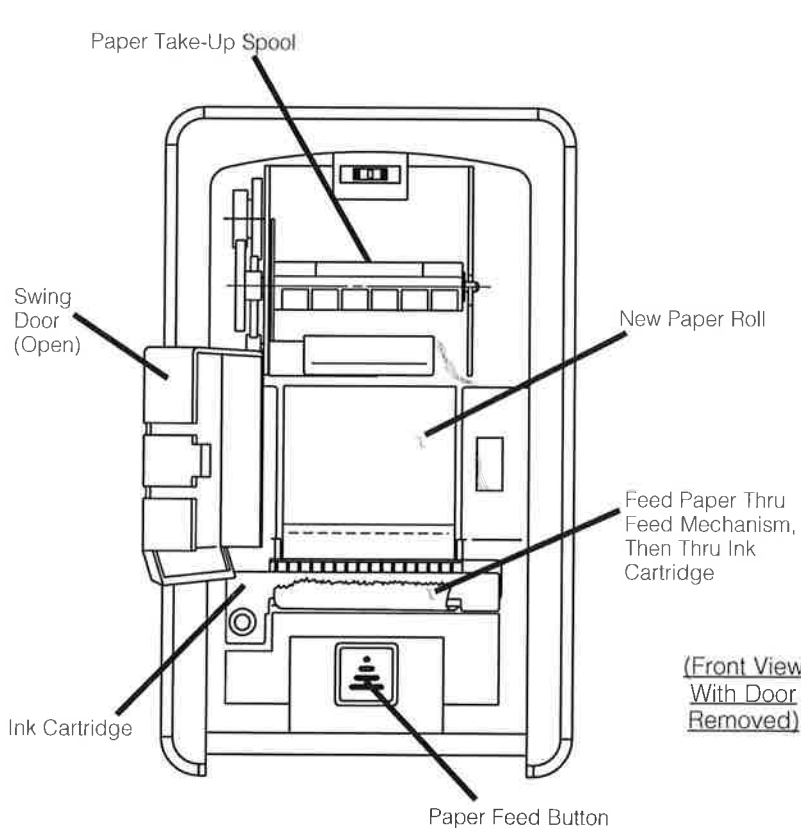

Figure 8-1.
2. Refer to figure 8-1 and remove any existing paper, then open the swing door located in the center of the paper.